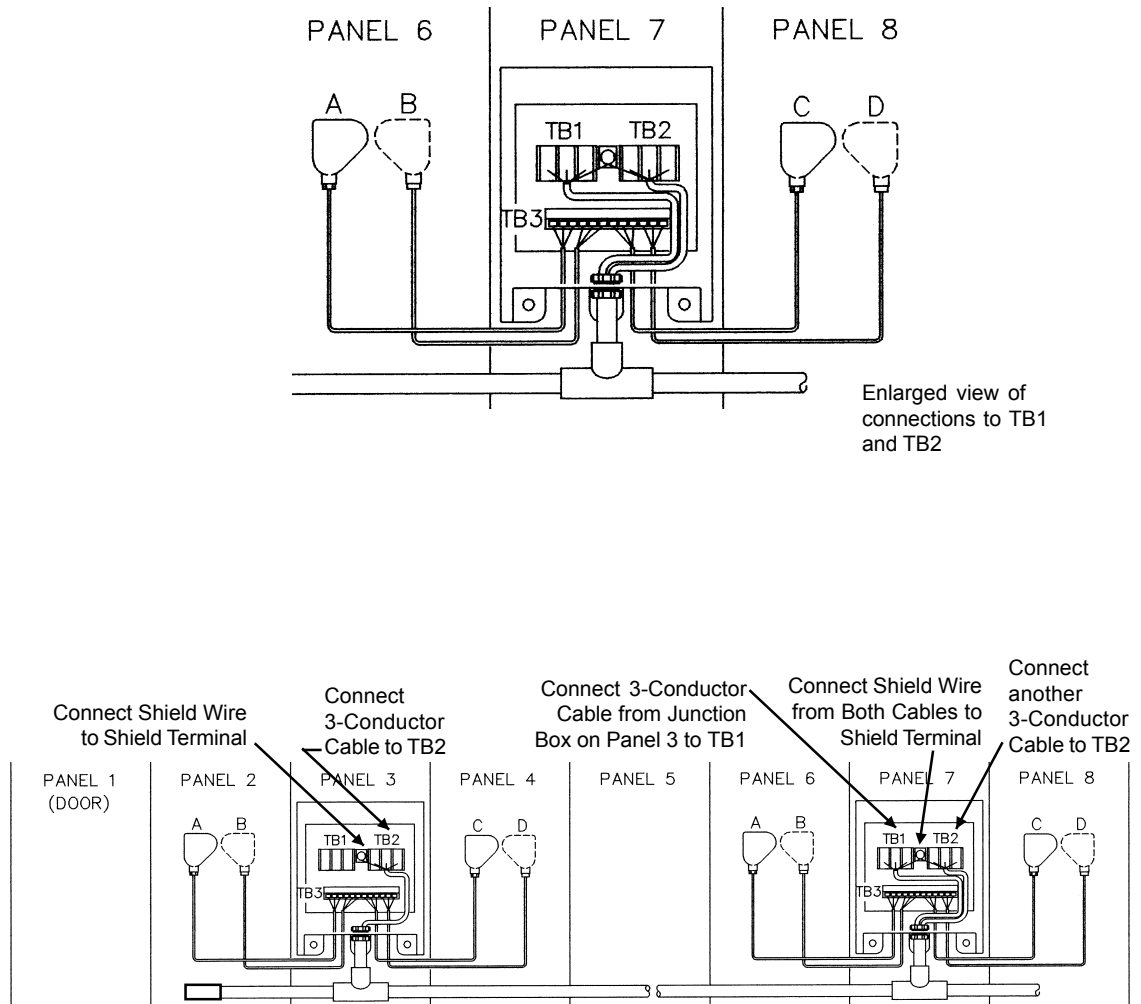
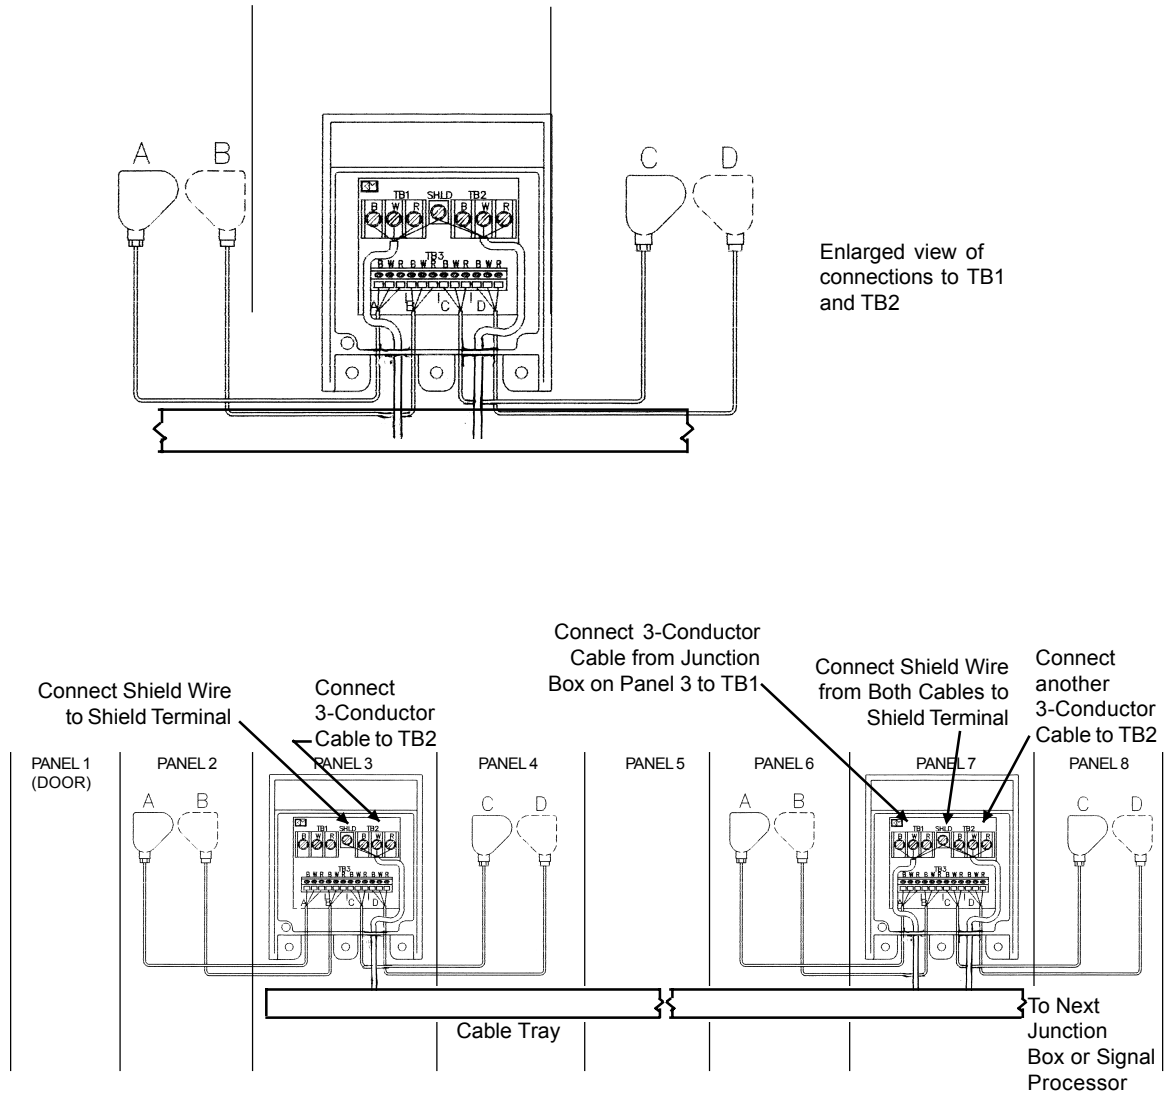

Figure 5-40. Wiring Junction Boxes Together (inside view of skirt) — Conduited Installation
Figure 5-41. Wiring Junction Boxes Together (inside view of skirt) — Non-Conducted Installation
2. See Figure 5-40 (conduited installation) or Figure 5-41 (non-conduited installation). Route the 3-conductor cable through the fitting into the junction box farthest from the signal processor. Connect wires from the cable to the TB2 terminal in the junction box: black wire to B, white wire to W, and red wire to R. Connect the cable shield wire to the Shield terminal between TB1 and TB2.